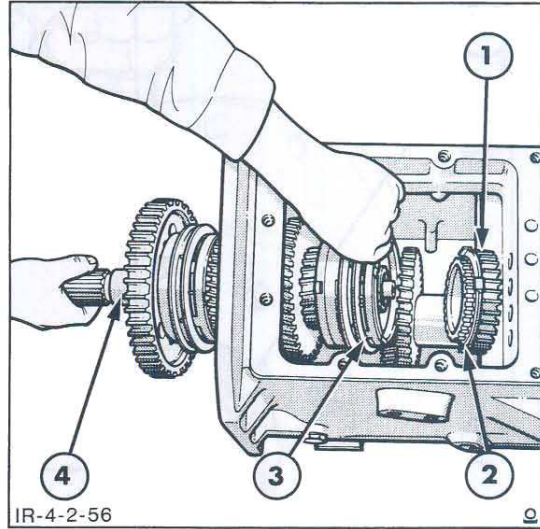

Figure 68
7. Install the 3rd gear synchroniser cone retainer to the rear input shaft, Figure 68.